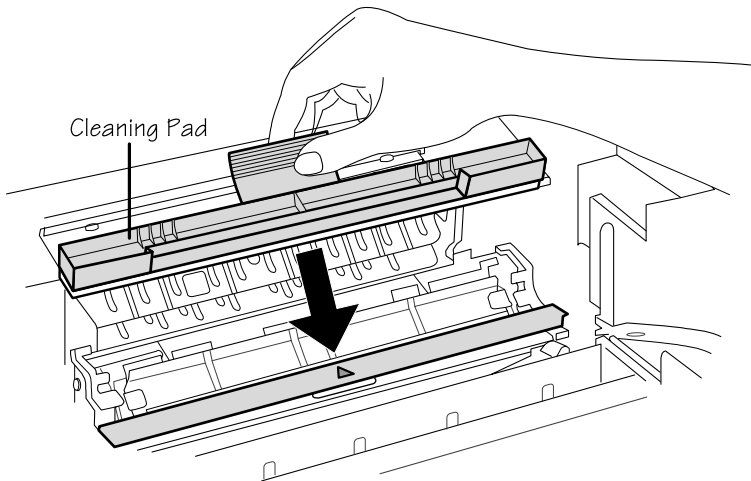

Fig. 2.17 Install the Cleaning Pad (front view)
2. Holding the cleaning pad by its center tab, align the center of the tab with the triangle mark on the printer (tab-side away from the triangle) (fig. 2.17).
3. Slide the pad into the slot above the heat roller (fig. 2.17). The pad is correctly positioned when it is centered snugly in the slot.